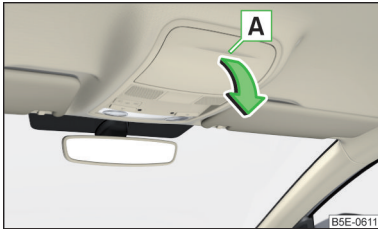

Fig. 108
- ▶ To **open**, press on the outer edge of the glasses compartment in area **A**. The compartment folds in the direction of the arrow » Fig. 108.